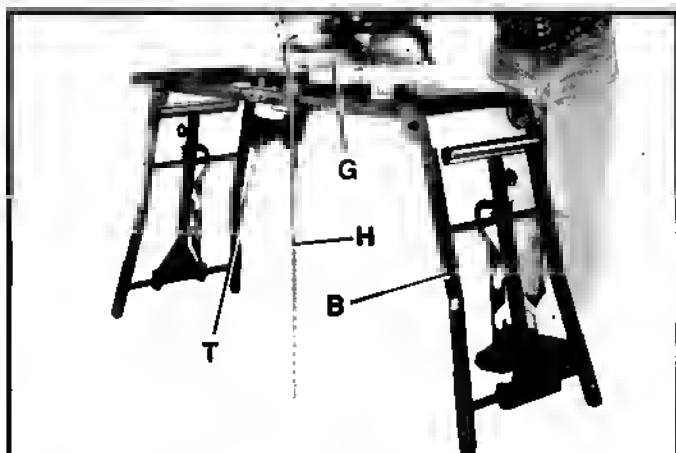

Fig. 11
1. Carefully place your miter saw onto Universal Miter Saw Stand (B) Fig. 11, and fasten using a clamp (T), as shown. **NOTE:** A table extension will be mounted later to the left hand side of the saw. If you would prefer to have the table extension on the right hand side of the saw, simply turn the saw 180 degrees.
2. Using a straight edge (G) Fig. 11, and tape measure (H), determine if the working height is suitable from the floor as shown.